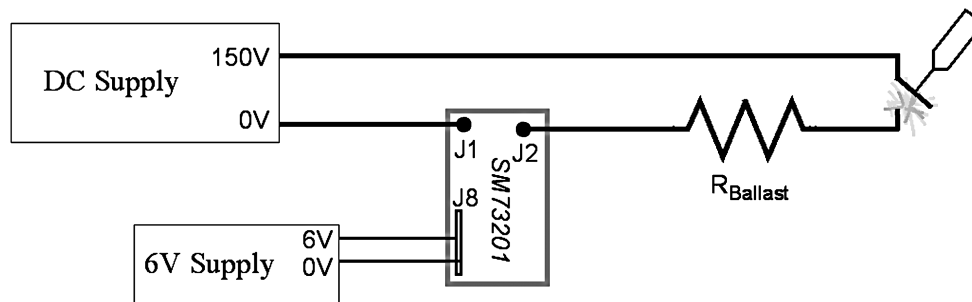
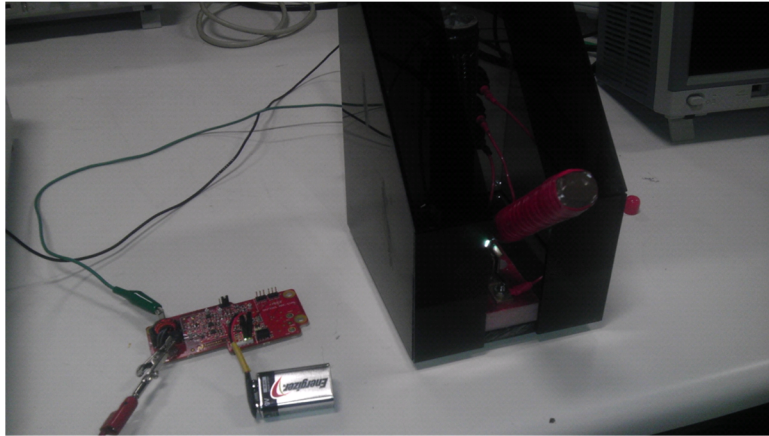
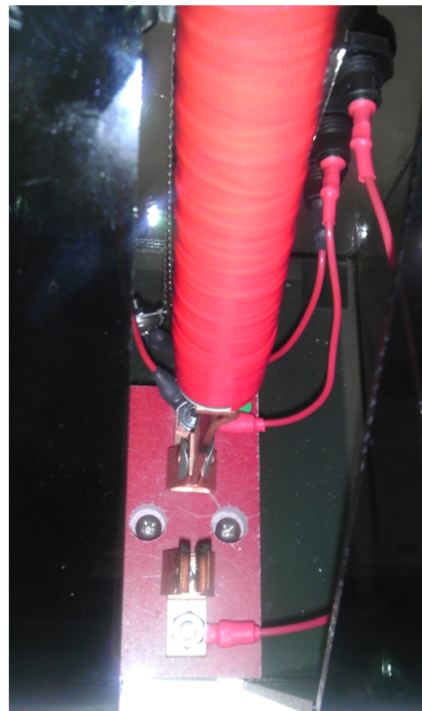

Figure 13. Basic Setup Schematic
Figure 14. Arc Generation Unit
Figure 15. Knife Switch
On the left is the DC power supply (item 1). The ballasting resistor and arc generation unit are combined into a single unit on the left. Once the system is connected up, slowly opening the knife switch on the Arc Generation unit will produce a controllable electrical arc. See Figure 13. The Arc Generation unit is not a commonly available piece of lab equipment. See Figure 14. They can be built using polycarbonate enclosure surrounding a knife switch (rating > 15A is required. A Filnor A-10S is acceptable). Polycarbonate is used as it provides protection against physical damage, is available in flame-resistant varieties, and also blocks the UV radiation an electrical arc produces. Below in Figure 15 is a picture of the knife switch. Notice the long handle. Be sure to use a non-conductive material for the handle which is flame-resistant.